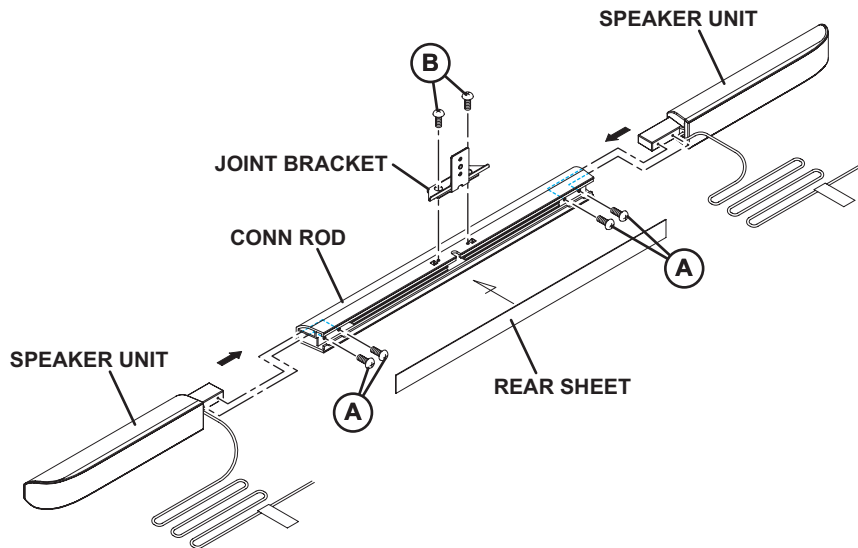

Fig.3-1
3.2.1 REMOVING THE SPEAKER UNIT (Fig.3-1)
3.2.2 REMOVING THE JOINT BRACKET (Fig.3-1)